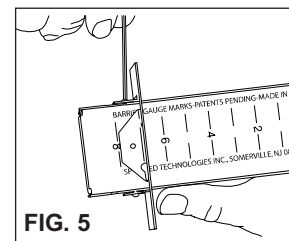

FIG. 5
2. Install a wall plate around raceway making sure that set screw flanges are facing towards the end of the device. Use gauge marks located on lid of raceway to adjust plate to thickness of wall (See Fig 5). This will center raceway within the wall. When properly adjusted, tighten set screws to lock plate onto raceway.